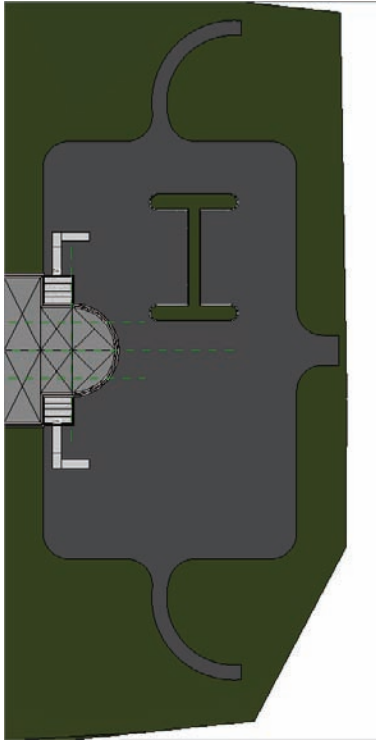

FIGURE 18.15 Adding the component to the parking lot
9. Place the parking island in a location similar to that shown in Figure 18.15. Note that you'll have to press the spacebar to orientate the component correctly.
16. Click the Load Into Project button. Click Overwrite The Existing Version if prompted to do so. Your model should resemble Figure 18.15.